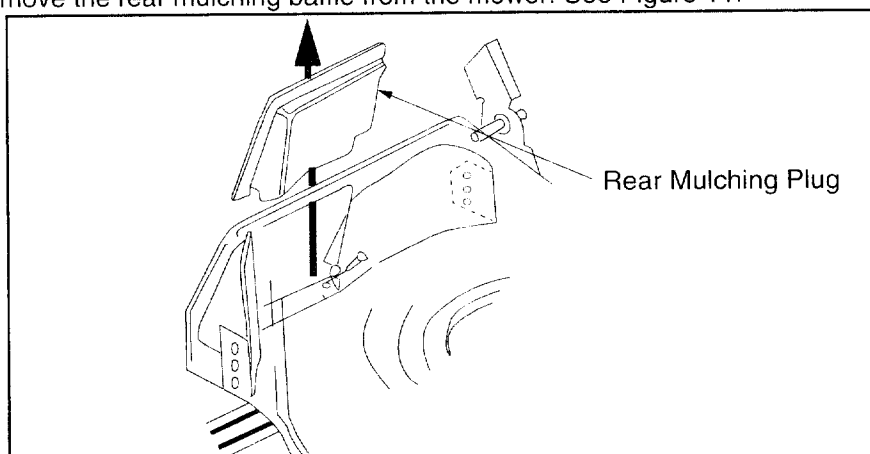

FIGURE 11
- If your mower is equipped with a mulching plug, and it is in place on the mower, lift the rear discharge door and remove the rear mulching baffle from the mower. See Figure 11.
- Insert the mulch plug. See Figure 11.